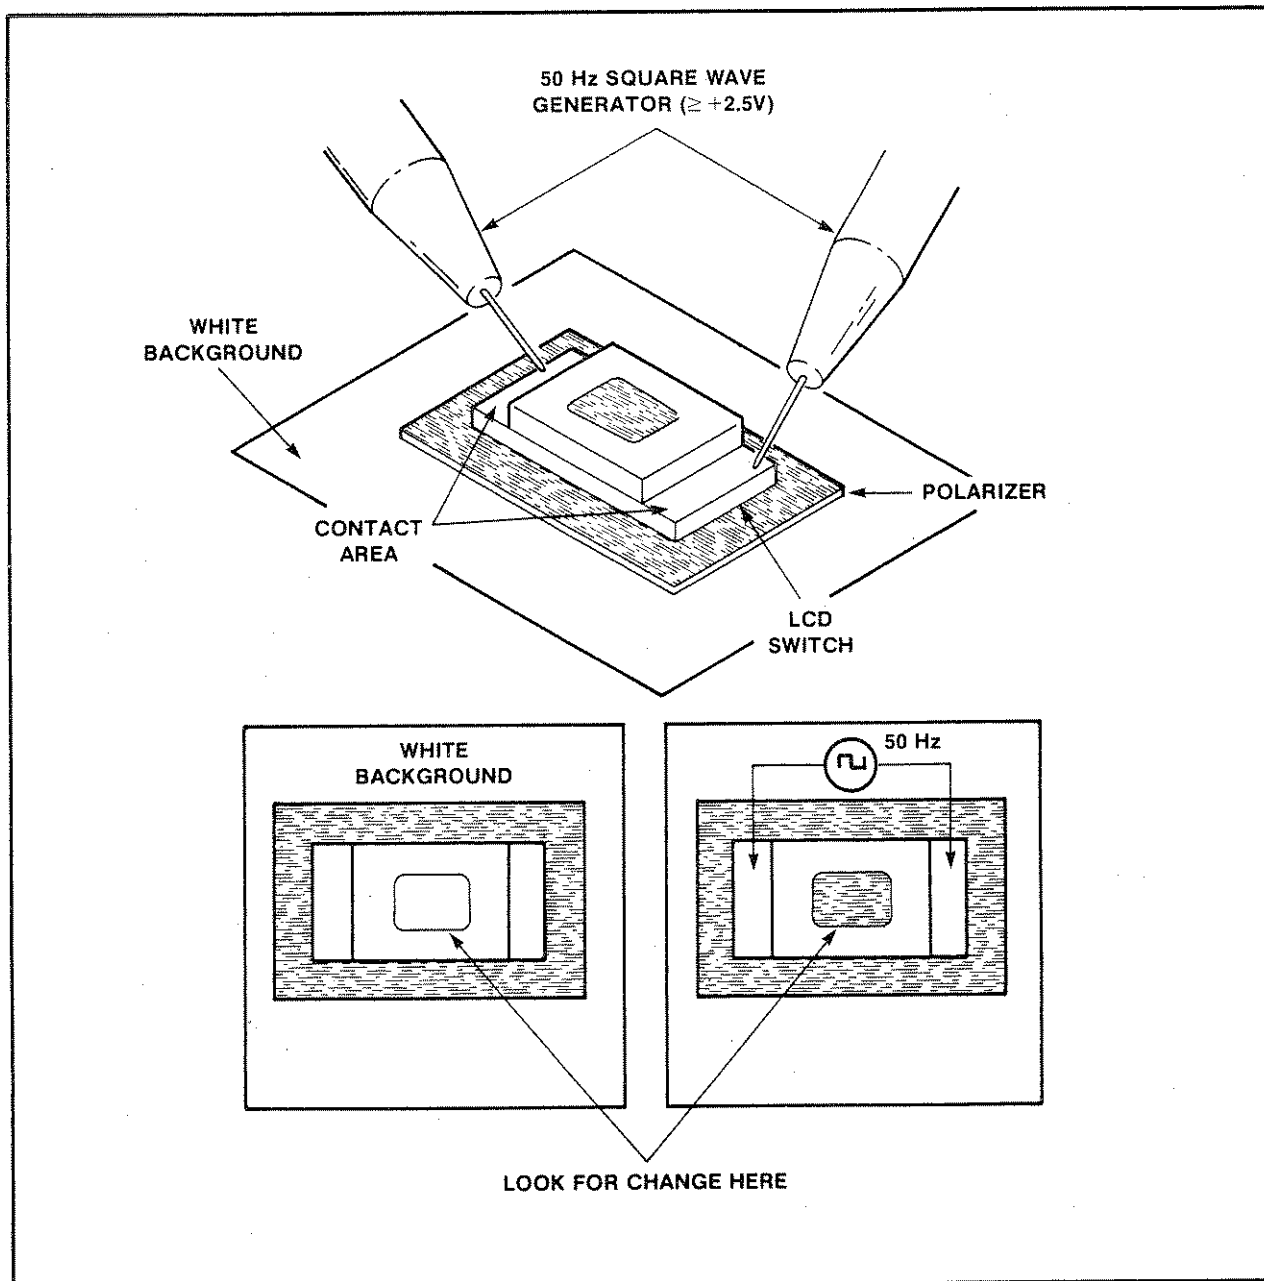

Figure 8-16. Liquid Crystal Test Setup.
- b. Place the liquid crystal in the test setup shown in Figure 8-16 below:
- c. Gently place the probes of the 50 Hz signal source on the end shoulders of the liquid crystal as shown in Figure 8-16 and observe the window area, it should go from light to dark while probing the device. A faint change of color or no change indicates a faulty liquid crystal. The replacement HP part number for the liquid crystal is 1990-0768.